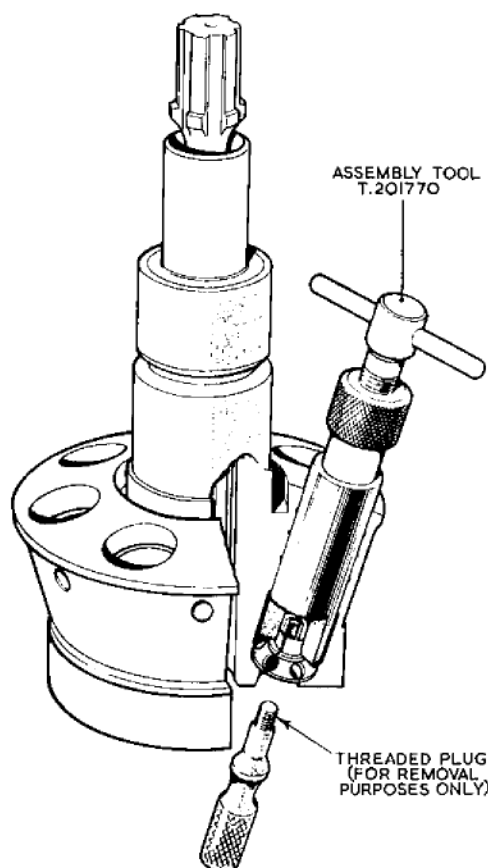

Fig. 25. Fitting or removing piston-spring guides
236. Fit a spring guide (80) using tool T.201770 or T.285737 (*fig. 25*), into the rotor piston bores, fit a spring bore and refit the pistons. Lower and upper pump assemblies are identical except for the piston springs, these are coiled in opposite directions. It is essential that the springs are not interchanged between the rotors. The upper pump is R.H. rotation and is fitted with the R.H. helix angle springs; the lower pump is L.H. rotation and is fitted with the L.H. helix angle springs.